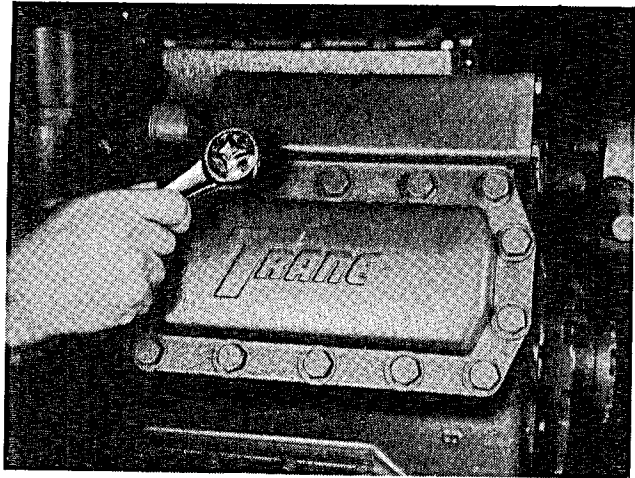

Figure 1
1. Loosen and remove all but two cylinder head bolts at opposite ends of the cylinder head (Figure 1).
NOTE: When installing cylinder heads, be sure the unloader is on the upper side of the head (Note position in Figure 1). The unloader must be in this position to provide drainage of oil for proper operation.
4. To disassemble the check valve, remove the nut and pull the washer and seal off the valve (Figure 1).